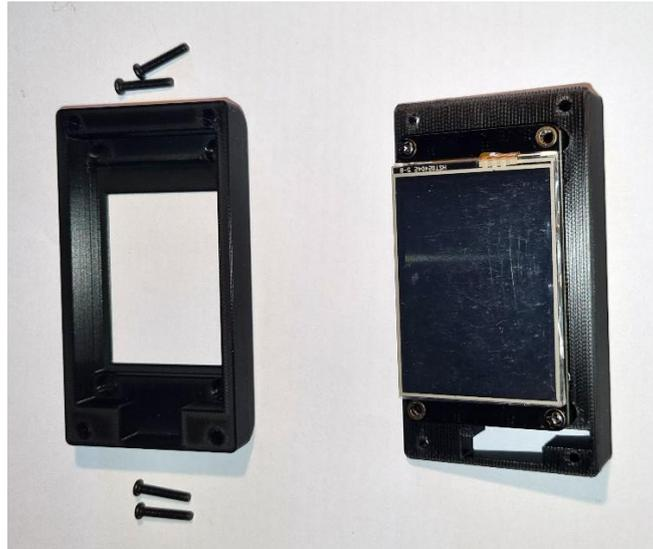

Fig. 6.2
- Remove the 4 screws and open the display case (fig. 6.2)